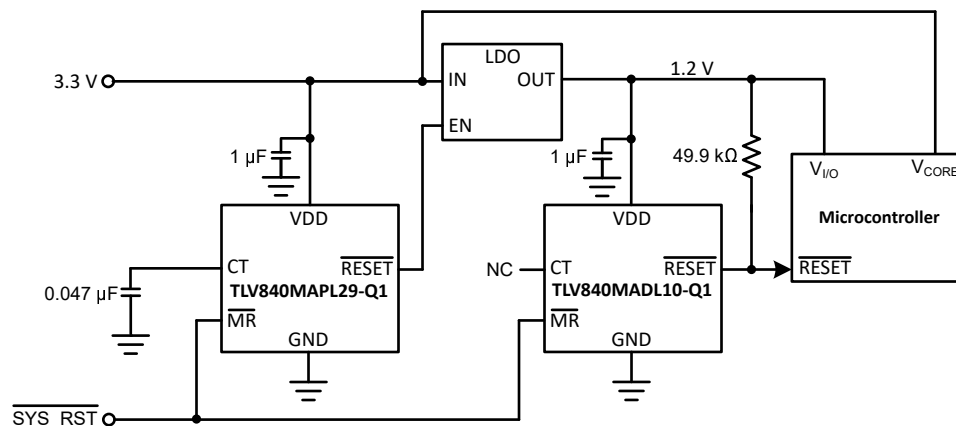

Figure 9-1. TLV840-Q1 Voltage Rail Monitor and Power-Up Sequencer Design Block Diagram
A typical application for the TLV840-Q1 is voltage rail monitoring and power-up sequencing as shown in Figure 9-1. The TLV840-Q1 can be used to monitor any rail above 0.9 V. In this design application, two TLV840-Q1 devices monitor two separate voltage rails and sequences the rails upon power-up. The TLV840MAPL29-Q1 is used to monitor the 3.3-V main power rail and the TLV840MADL10-Q1 is used to monitor the 1.2-V rail provided by the LDO for other system peripherals. The  $\overline{\text{RESET}}$  output of the TLV840MAPL29-Q1 is connected to the enable (EN) input of the LDO. A reset event is initiated on either voltage supervisor when the VDD voltage is less than  $V_{\text{IT}}$ . For a system-wide reset event, both  $\overline{\text{MR}}$  pins are tied to the  $\overline{\text{SYS\_RST}}$ . For the purpose of this application, the design detail on  $\overline{\text{MR}}$  are not covered. For more information on the function of  $\overline{\text{MR}}$ , please see Section 8.3.3